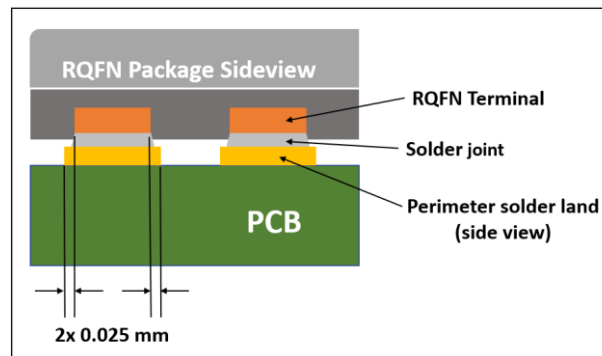

Figure 19: Perimeter Solder Land Width (Side View)
- It is recommended to extend the width of the perimeter solder lands by 0.025mm at both sides (**Figure 19**).